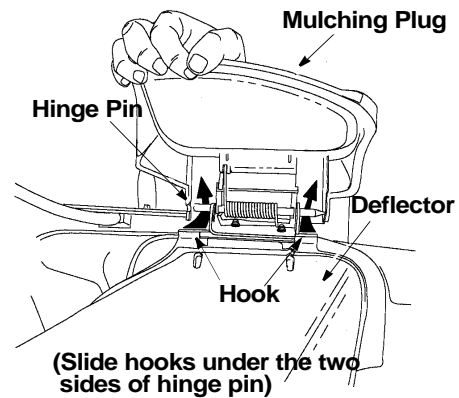

Figure 10
- On the side of the mower, lift the mulching plug. See Figure 10.
- Slide the two hooks of the side discharge chute under the hinge pin on the mulching plug assembly as shown in Figure 10. Lower the side mulching plug.